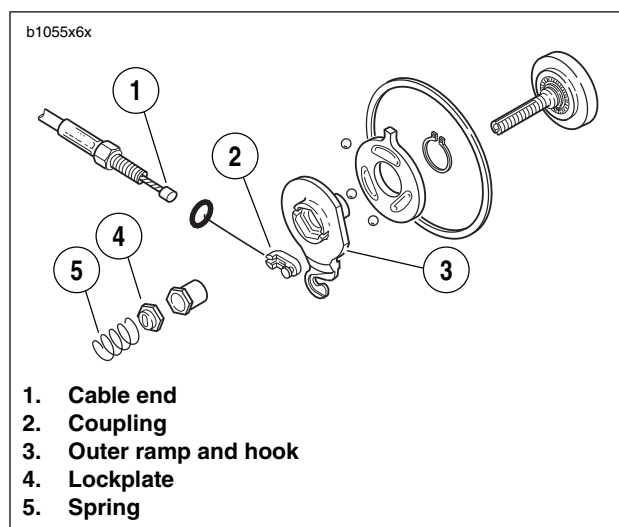

Figure 6-6. Clutch Release Mechanism
6. See Figure 6-6. Fit coupling (2) over cable end (1) with rounded side inboard and the ramp connector button outboard. With retaining ring side of ramp assembly facing inward, place hook of ramp (3) around coupling button and rotate assembly counterclockwise until tang on inner ramp fits in slot of primary cover.